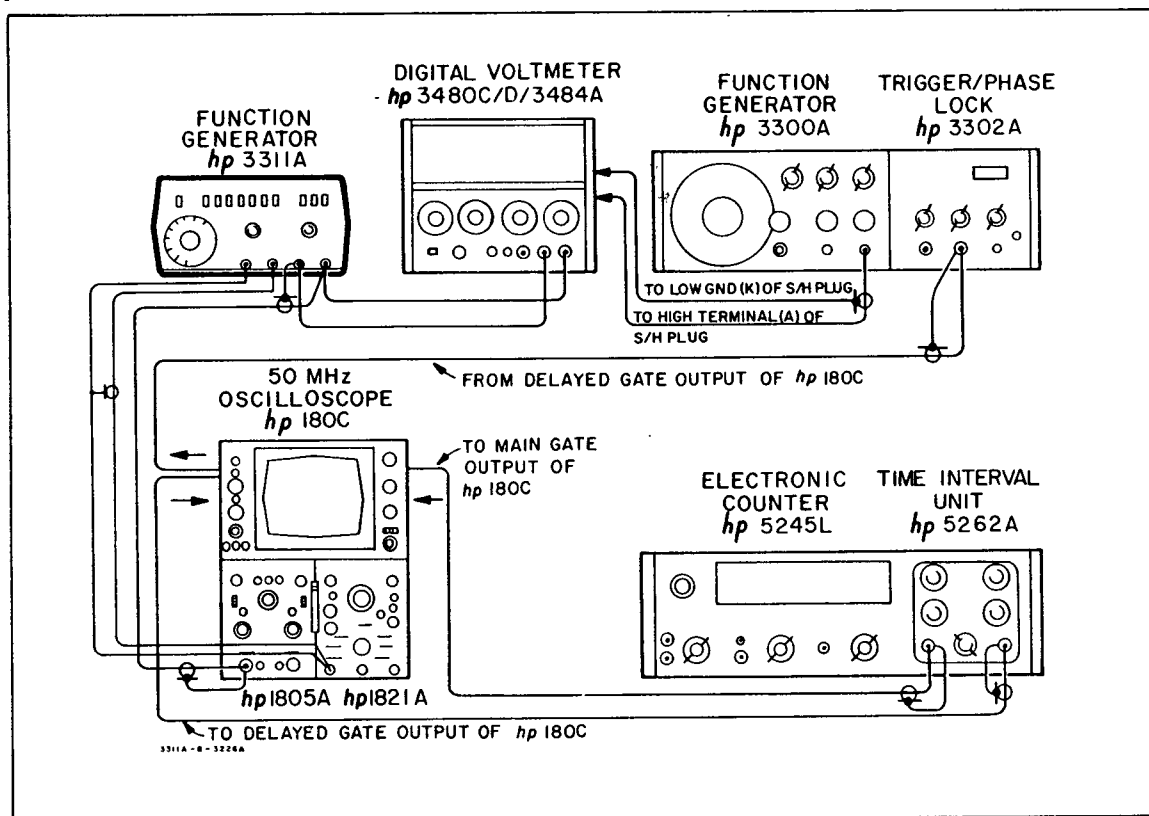

Figure 5-6. Triangle Linearity Check.
- c. Connect the equipment as shown in Figure 5-6.